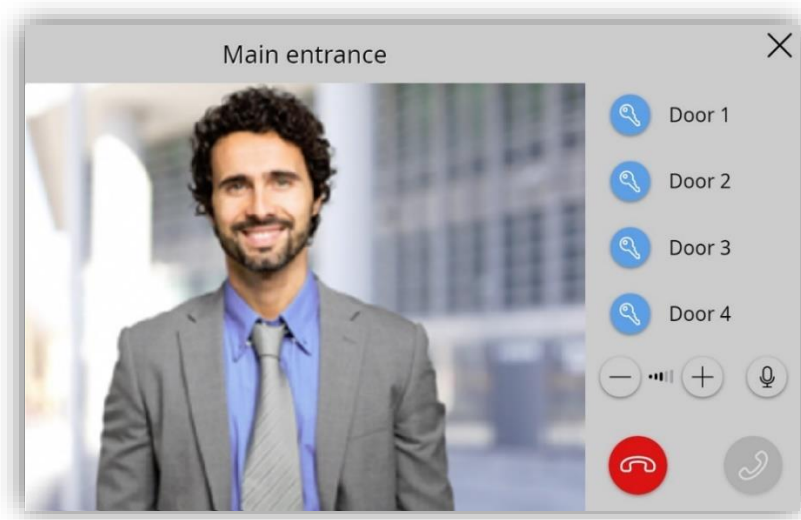

Figure 119. Ongoing call
- **Accept Call:** opens the ongoing call dialog (Figure 119) and notifies others synchronized screens in the same network that the call has been accepted:
When accepting the incoming call, Z70 v2 shows the interface in Figure 119 and starts the voice communication with the GetFace IP.